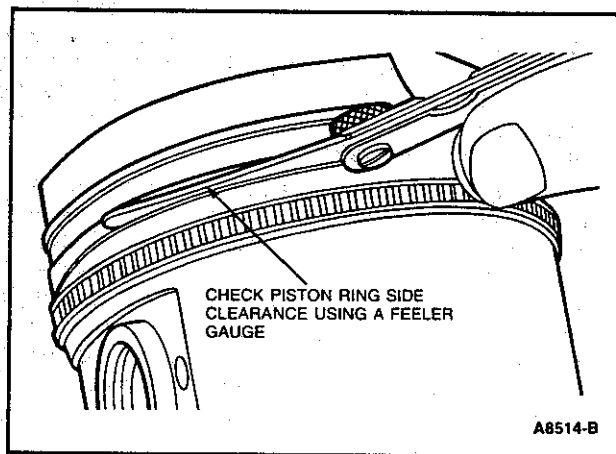

Figure 39 Piston Side Clearance Check
6. Check the ring side clearance of the compression rings with a feeler gauge inserted between the ring and its lower land according to specification Section (Figure 39). The gauge should slide freely around the entire ring circumference without binding. Any wear that occurs will form a step at the inner portion of the lower land. If the lower lands have high steps, the piston must be replaced.